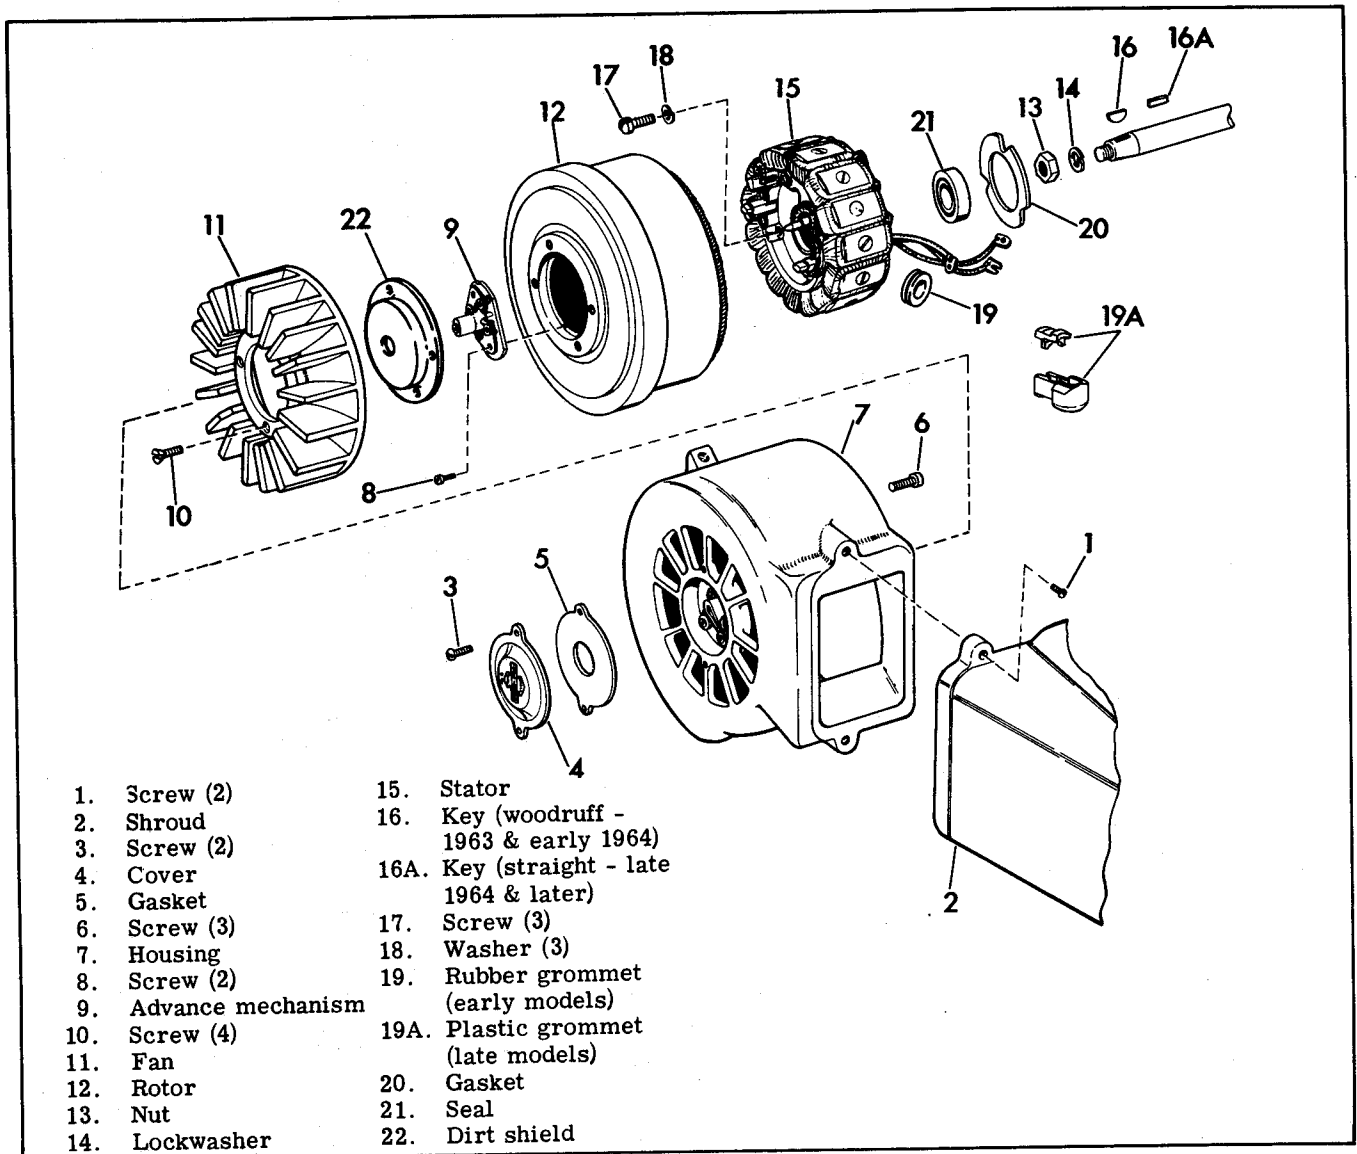

Figure 5E-21. Starter-Generator (1963-66 Model D, 1967 & 68 Model DC) - Exploded View
When it is necessary to work on the starter-generator unit, the engine must be removed from the chassis. See "Removing and Installing Engine", Section 3A. Remove air shroud mounting screws (1) and air shroud (2). Remove inspection cover screws (3), inspection cover (4) and gasket (5). Remove three fan housing screws (6) from crankcase (Not shown). Remove fan housing (7) while holding circuit breaker movable point away from cam to prevent damage to fibre rubbing block. Remove two circuit breaker advance mechanism screws (8) and advance mechanism (9). Remove four fan mounting screws (10), fan (11) and dirt shield (22). Using Holding Tool, part number 94692-63, hold armature rotor (12) and remove nut (13) and lock washer (14). (See Fig. 5E-22.) Thread Armature Puller, part number 95563-63, into armature and turn press screw inward until armature breaks free of shaft taper. NOTE: Early Model D shafts have a large center in end of shaft. A 3/16 inch ball comes with puller which should be inserted into such large centers for the puller screw to bear against. Carefully slide armature off stator (15) and remove puller. (See Fig. 5E-23.) After removing armature rotor from crankshaft, note carefully whether the armature commutator area has an oil-wet or sticky carbon deposit. This would indicate a leaking oil seal behind the field stator. (Dry carbon dust is o.k.) To remove field stator (15) from right crankcase, remove armature key (16) from shaft. Remove three stator mounting screws (17) and washers (18). Remove rubber or plastic grommet (19 or 19A) from crankcase to permit withdrawal of wires through crankcase. CAUTION: Normally the stator (15) will be held tightly to the crankcase with gasket sealer. To break stator free from crankcase use two large screwdrivers to pry between the stator pole pieces and the crankcase. (See Fig. 5E-24.) Extreme care must be taken to avoid prying against the field coils and thereby damaging them. Remove stator gasket (20). Crankcase seal (21) can then be pushed out of stator (15).
Brushes must be replaced when worn down to shoulders on their flanks (early models) or score line on side of brush (later models) as indicated in Fig. 5E-25.